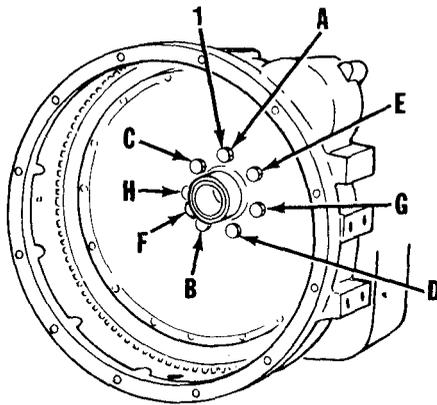

Figure 6-7
12. Torque eight capscrews (1, Figure 6-7) in sequence to 101 lb-ft (137 N•m).